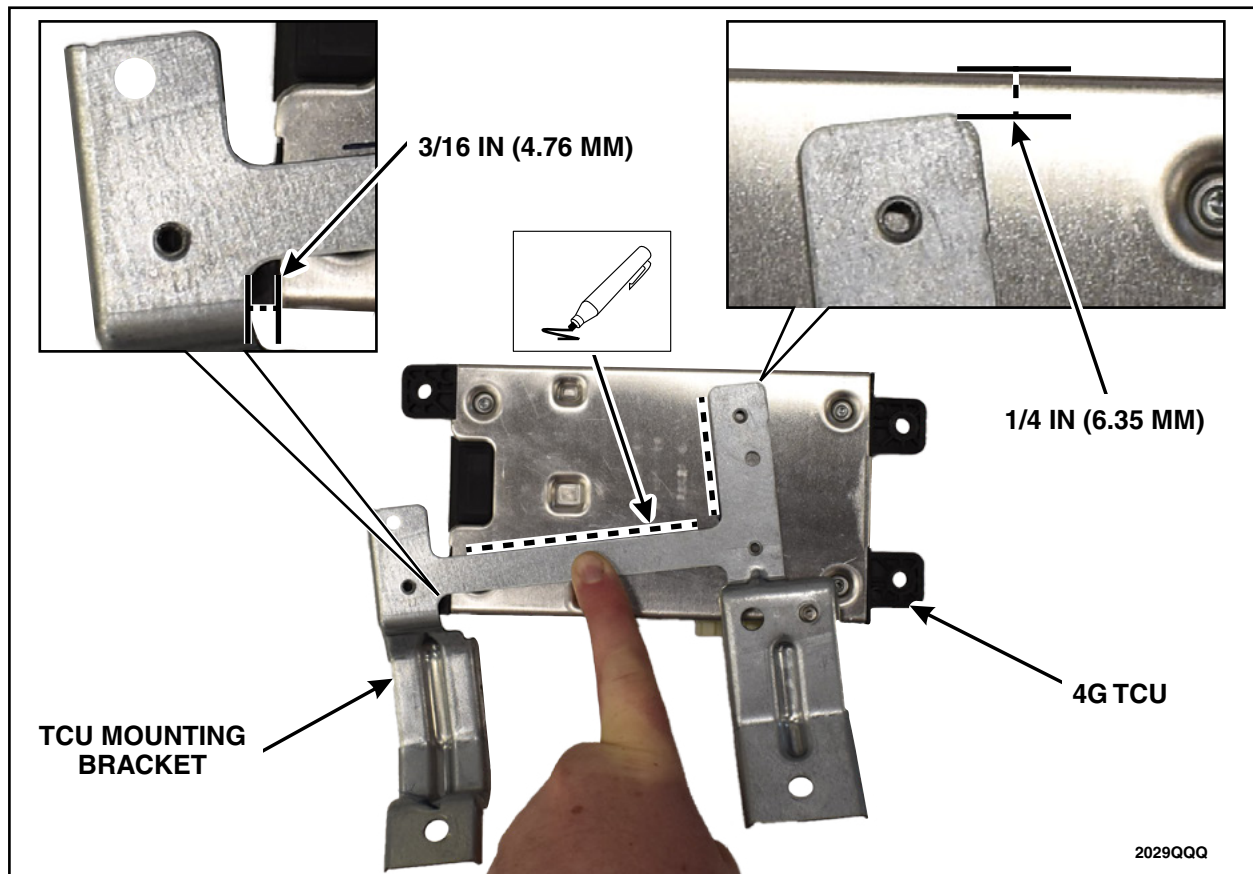

FIGURE 2
5. Align, measure and mark the bracket location on the *new* TCU module. See Figure 2.